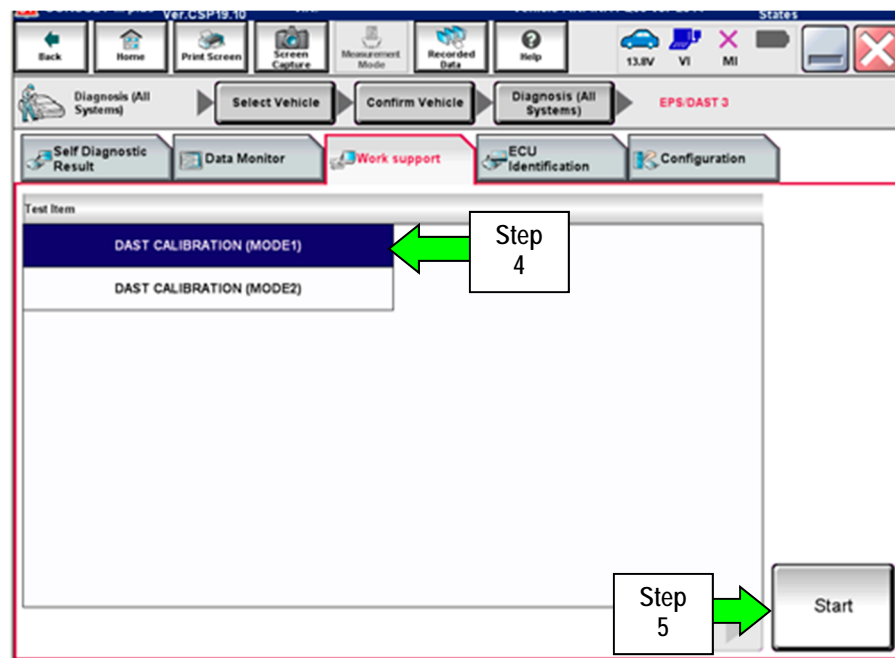

Figure 1
4. On the C-III plus screen, select **Diagnosis (All Systems)**. After system call has completed, select **EPS/DAST 3 >> Work support >> DAST CALIBRATION (MODE1)**. See Figure 1.